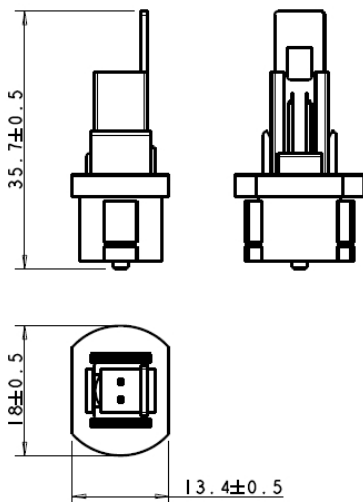

Fig. 2
- Lumberg connector type MSF p.2,5 (model ST11 L, see Fig.2);